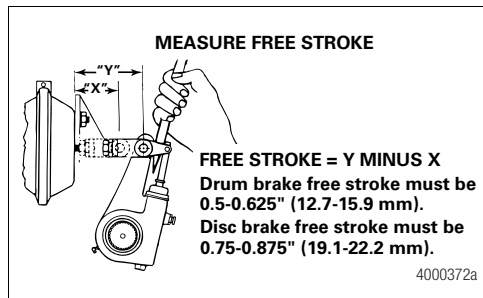

Figure 13
3. Measure the distance from the center of the large clevis pin to the bottom of the air chamber while the brake is released. The measurement you obtain is X in Figure 13.
4. Use a pry bar to move the slack adjuster and position the linings against the drum, brakes applied. Measure the same distance again while the brakes are applied. The measurement you obtain is Y in Figure 13.
- Subtract X from Y to obtain the in-service free stroke. The measurement must be 0.5-0.625-inch (12.7-15.9 mm) for drum brakes. Figure 13.